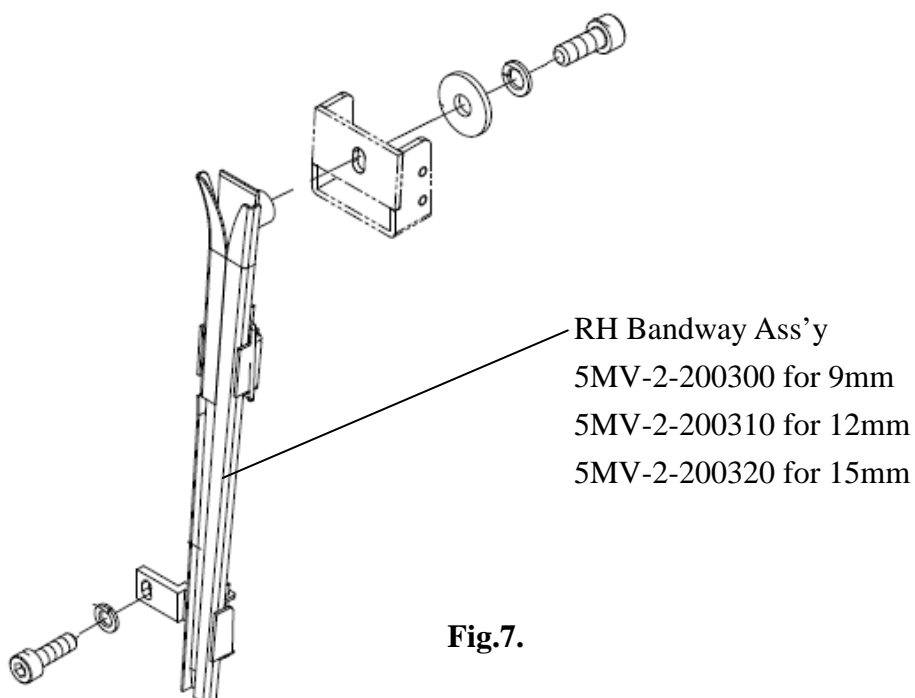

Fig.7.
- Change RH Bandway Ass'y (5MV-2-200300 / 5MV-2-200310 / 5MV-2-200320) according to the strap width. (refer to fig. 7.)